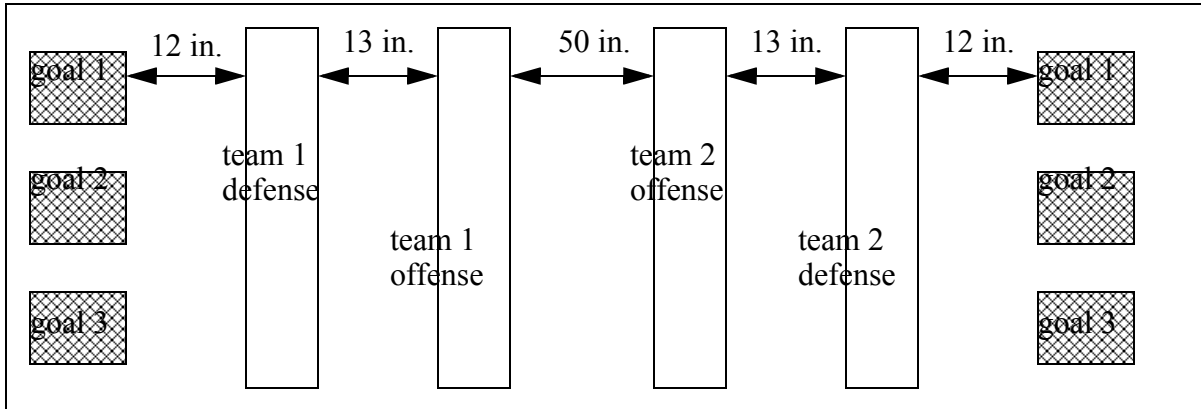

Figure 1 - Playing Field
1. The geometry of the playing field is as shown in Figure 1. Balls are shot by the offensive robots towards the opposing teams goals. The objective of the game is to score as many points in your opponents goal while minimizing the number they can score on yours. The playing field has been constructed so that the playing surface is clear of obstacles, except the opponents.